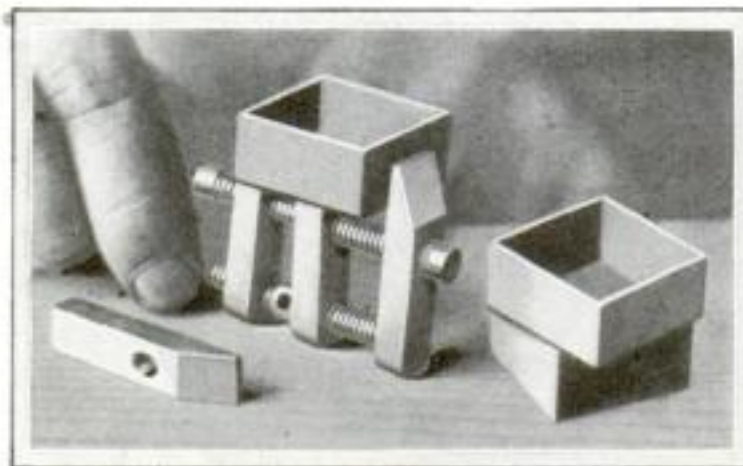

Fig. 1. How two parallel clamps can be used together in order to take extra wide work.
**W**HEN a machinist's parallel clamp will not open wide enough to take the work at hand, it sometimes can be made to serve by using with it one jaw and both screws from another similar clamp in the manner illustrated in Fig. 1.